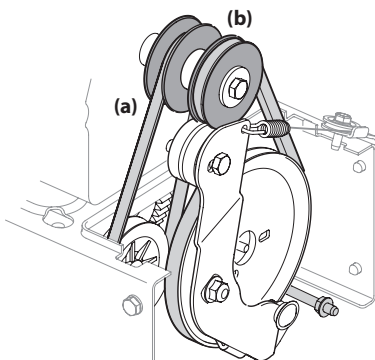

Figure 4-23
4. Remove the drive belt (a) from around the engine pulley (b), and away from the unit. See Figure 4-23.
5. Place the new drive belt (a) on the engine pulley. See Figure 4-23.